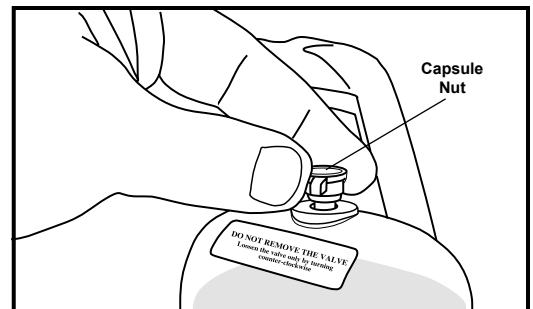

Figure 9
- Unscrewing the nut counter-clockwise adjusts crystal flow. You should notice some movement, or bubbling, of the new abrading media inside the Crystal Capsule™ when performing procedures (fig. 9).
- If less crystal flow is desired, unscrew the nut until you see a slight decrease of the crystal bubbling inside the capsule, or no movement at all which indicates minimum volume of crystal flow (fig. 9).